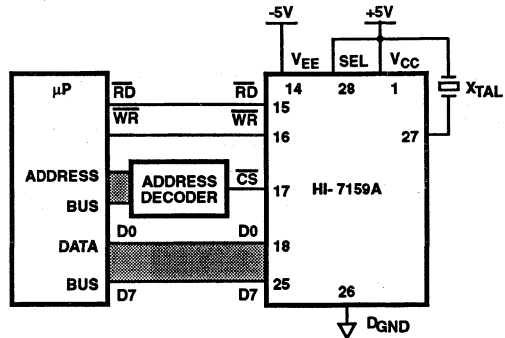

FIGURE 3. PARALLEL MODE CONFIGURATION
The parallel communication mode (Figure 3) is selected when SEL (pin 28) is high. Pins 18-25 become the eight bi-directional data bits, P0-P7. Pins 15, 16, and 17 respectively become read (RD), write (WR), and chip select (CS). Timing parameters for the parallel mode are shown in Figure 1.